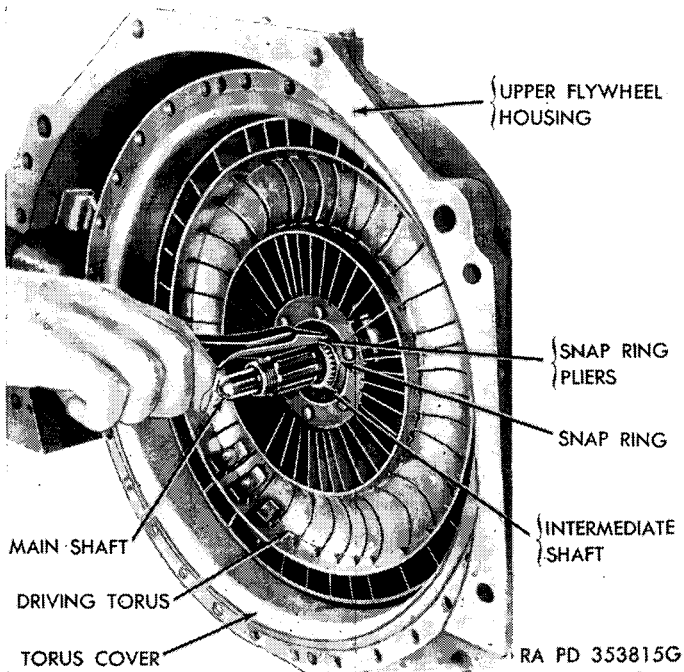

Figure 110. Removing driving torus snap ring.
- (1) *Remove engine.* Remove engine and transmission assembly from vehicle (par. 97).
- (2) *Remove transmission.* Remove transmission assembly from engine (par. 151).
- (3) *Remove torus members.* Straighten main shaft nut lock and remove nut and lock holding driven torus on shaft. Pull driven torus off main shaft. Remove snap ring holding driving torus on intermediate shaft, using snap ring pliers (fig. 110). Pull out on driving torus and remove from intermediate shaft.
- (1) *Install torus members.* Push driving torus on splines of intermediate shaft and install snap ring (fig. 110), using snap ring pliers. Push driven torus on transmission main shaft splines and see that oil pressure regulator on inner hub slides over end of intermediate shaft. Install driven torus retaining nut and new lock on main shaft and bend lock back over nut.
- (2) *Install transmission.* Install transmission assembly on engine (par. 151).